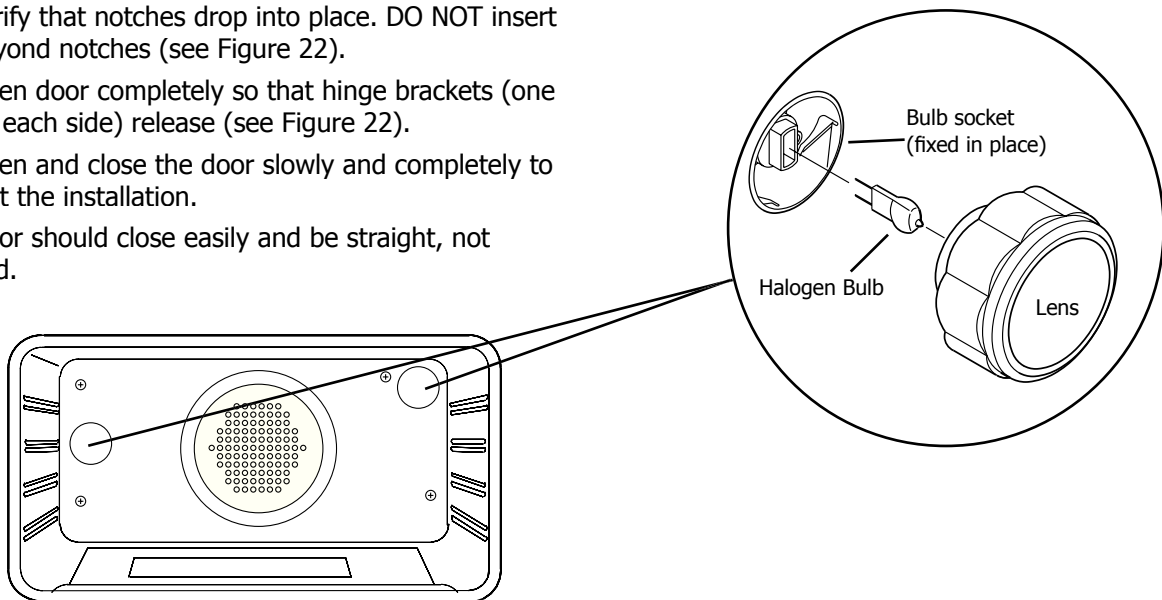

Figure 23: Oven Light
- Each light assembly consists of a removable lens, a light bulb and a light socket housing that is fixed in place (see Figure 23, next page).
To replace a light bulb (see figure 23, next page):